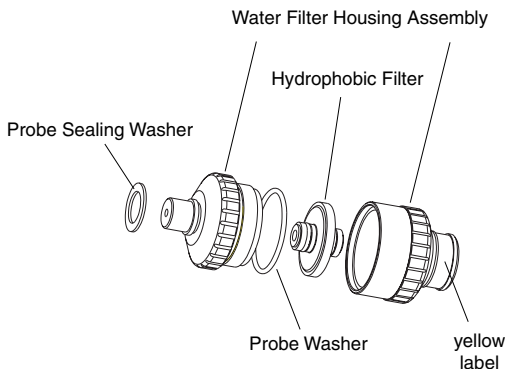

Fig. 5-10 Water Filter Assembly
- 1) Unscrew the filter housing assembly (Fig. 5-10).